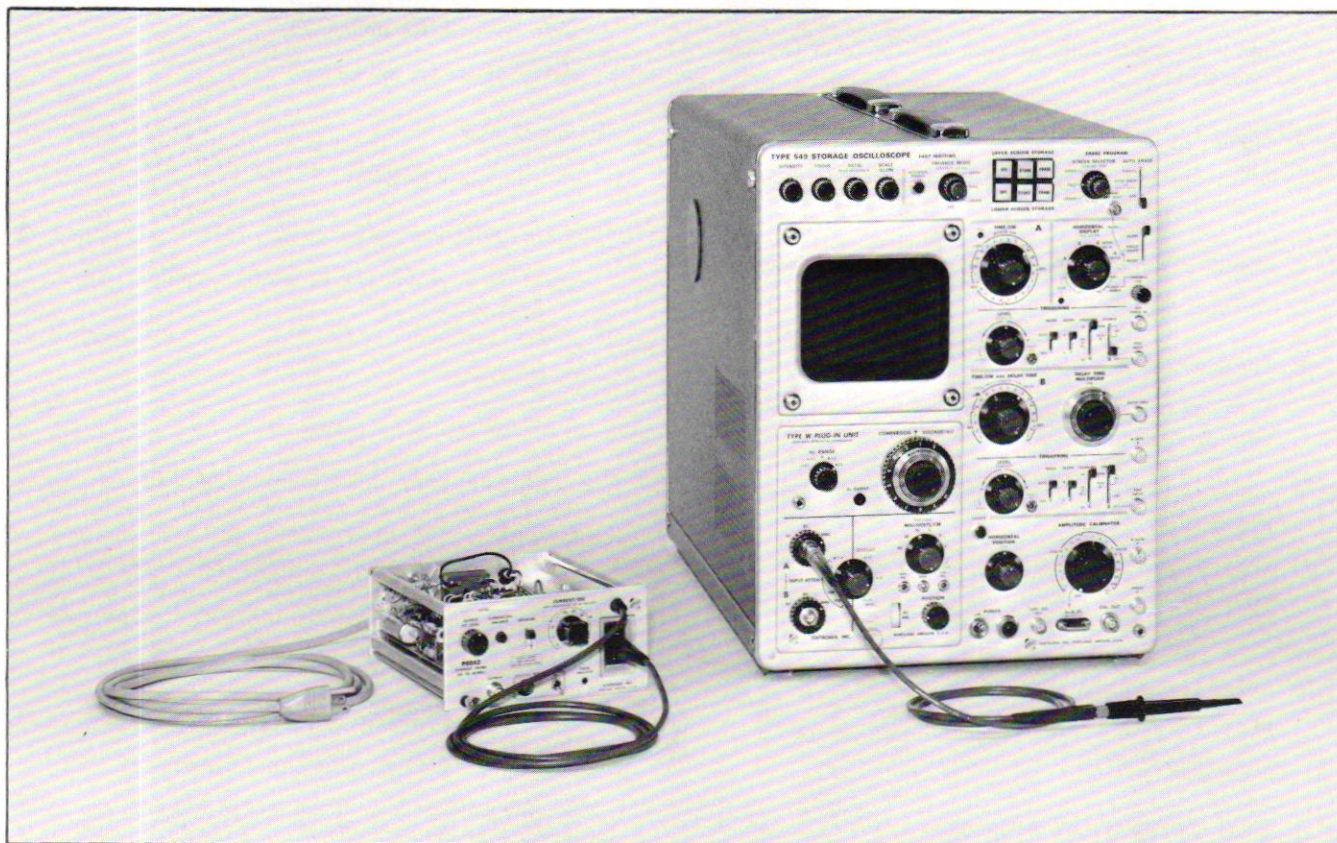

Fig. 6-2. Preliminary test setup.
4. Place the differential comparator plug-in unit in the storage oscilloscope. Connect the 1 $\times$  probe to the Channel A input. See Fig. 6-2 for preliminary test setup.